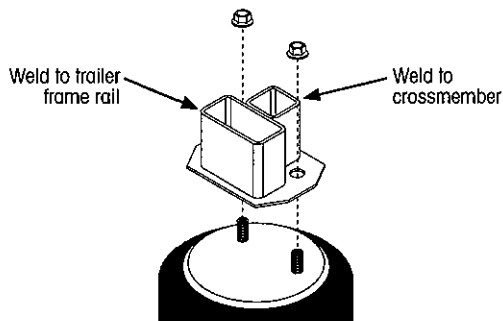

Figure 23: Air spring weld-on mounting plate.
1. **Tack weld** mounting plates (Figure 22 or Figure 23) into place.